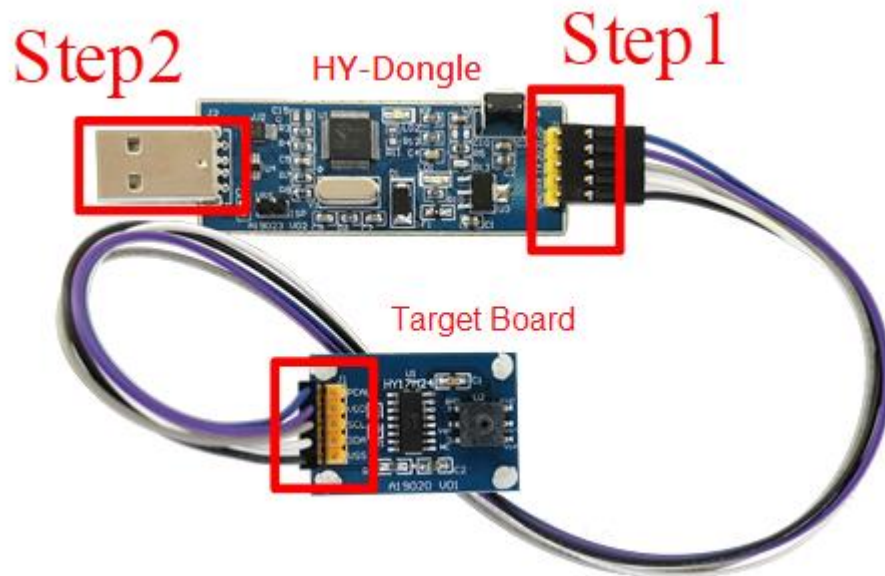

Figure 4-6
Step3: After Step1 and 2 (as shown in Figure 4-6), you can start to operate the software.